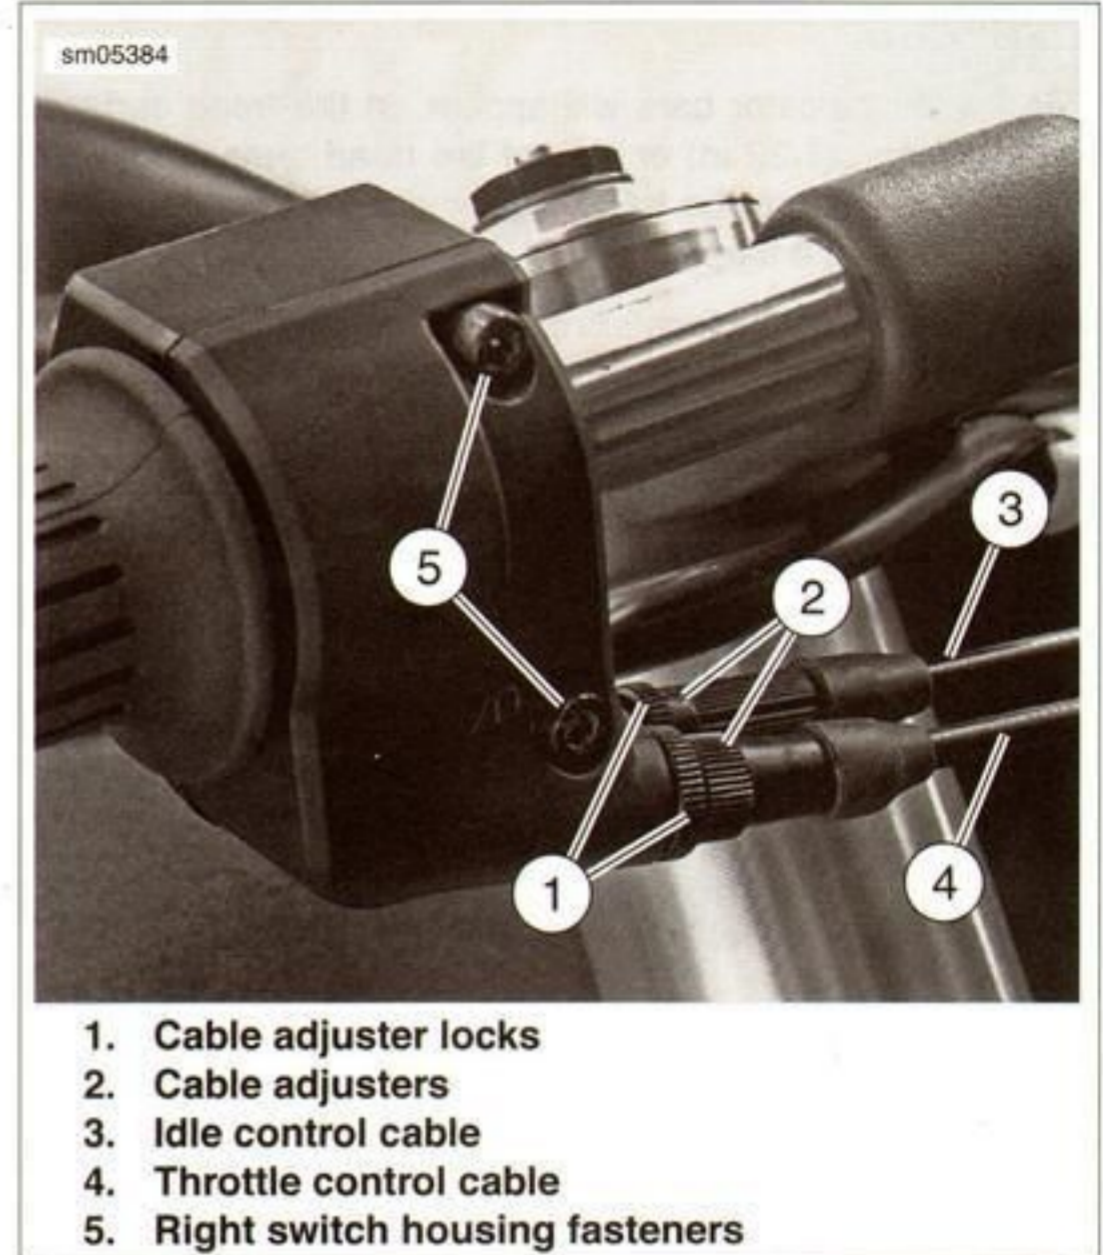

Figure 1-13. Throttle Cable Adjusters
1. See Figure 1-13. Loosen cable adjuster lock (1) on each cable.
2. Turn adjusters (2) in direction which will shorten cable housings to minimum length.
4. Turn adjuster on throttle control cable (4) until throttle cam stop touches stop plate. Tighten cable adjuster lock (1) on throttle control cable adjuster; release throttle control grip.
5. Turn handlebars fully to right. Turn adjuster on idle control cable (3) until end of cable housing just touches the cable guide.